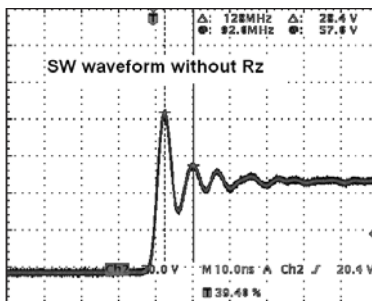
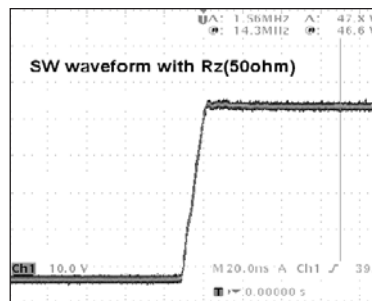

Figure 3
Figure 4
- 1: One resistor R_z ($50\ \Omega$) is added between the SW pin and Cb pin. This changes the SW node waveform from **Figure 3** to **Figure 4**. The criterion of R_z selection is dependent on the SW turn-on slew rate and its ringing. The smaller the ringing, the better.